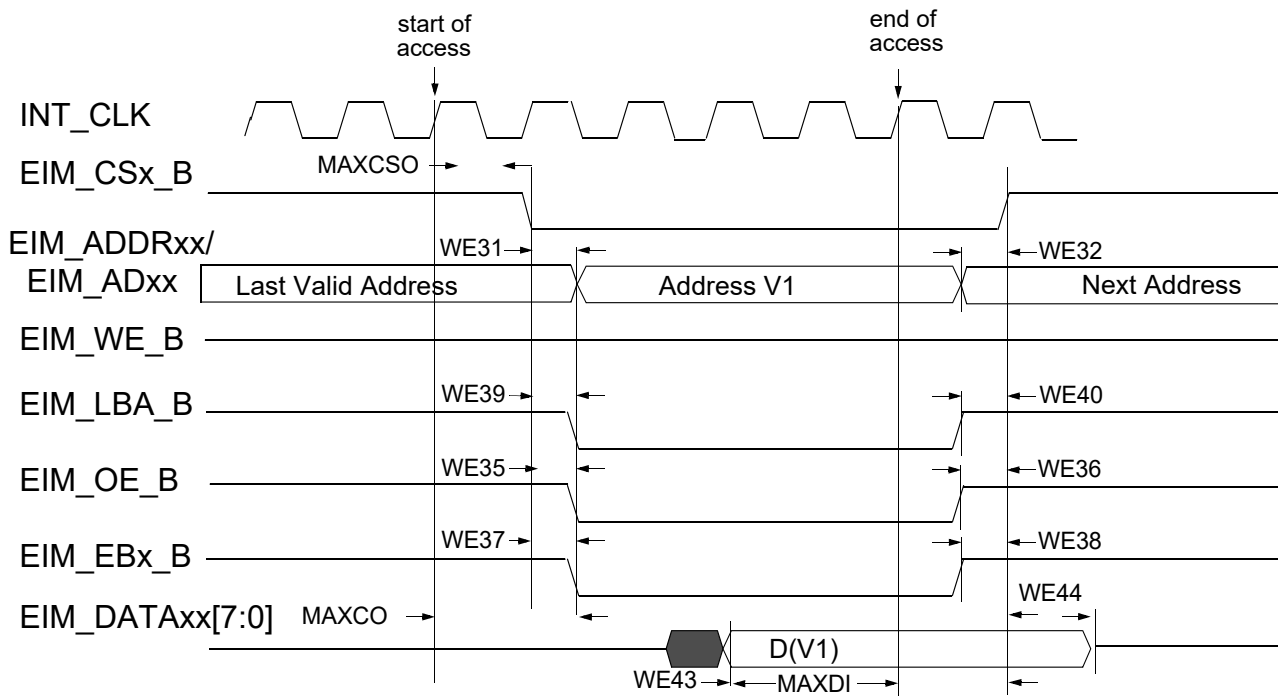
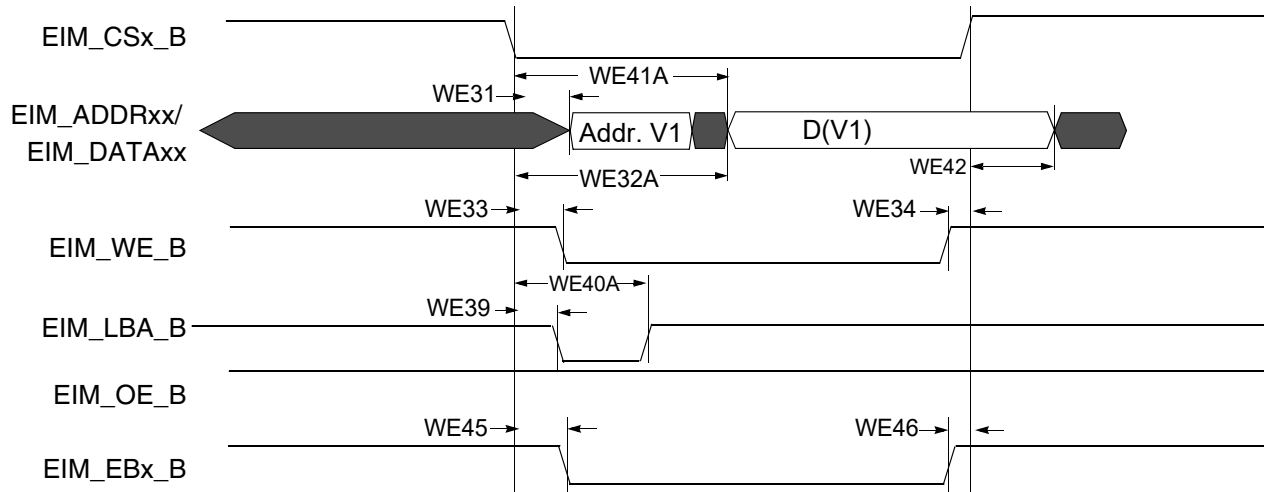
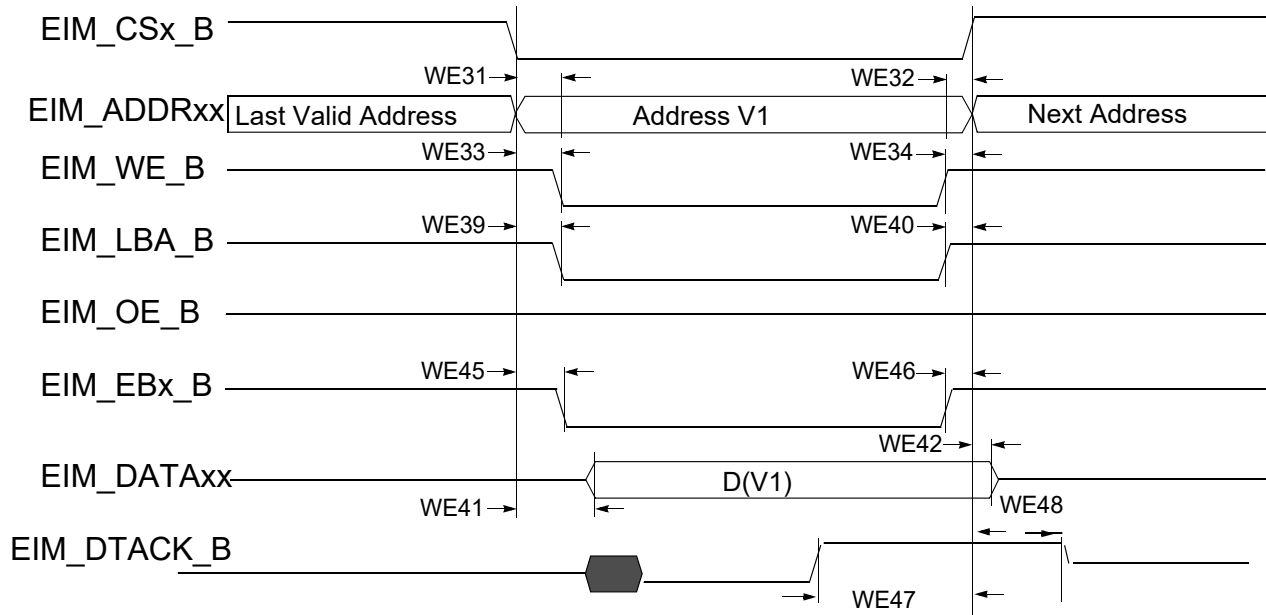

Figure 16. Asynchronous Memory Read Access (RWSC = 5)
Figure 19. Asynchronous A/D Muxed Write Access
Figure 21. DTACK Mode Write Access (DAP=0)
Figure 16 through Figure 21, and Table 45 help you determine timing parameters relative to the chip select (CS) state for asynchronous and DTACK EIM accesses with corresponding EIM bit fields and the timing parameters mentioned above.
Asynchronous read and write access length in cycles may vary from what is shown in Figure 16 through Figure 19 as RWSC, OEN and CSN is configured differently. See the *ii.MX 6SoloX Applications Processor Reference Manual (IMX6SXRm)* for the EIM programming model.